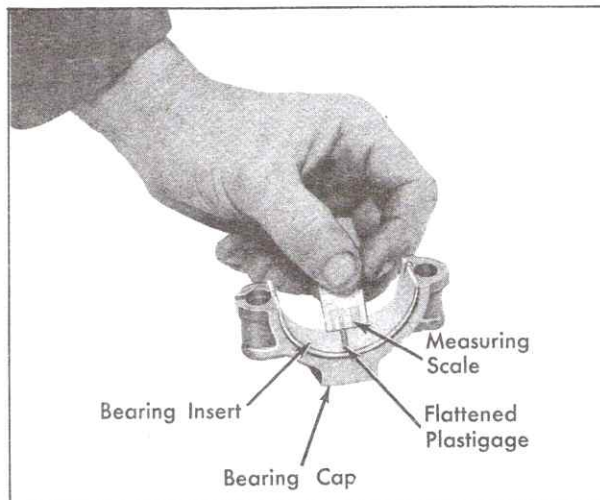

Fig. 6-140 Checking Bearing Clearance
4. Remove bearing cap and determine clearance by comparing width of flattened "Plastigauge", at its widest point, with graduations on "Plastigauge" container. Number within matching graduation on envelope indicates clearance in thousandths of an inch, Fig. 6-140.